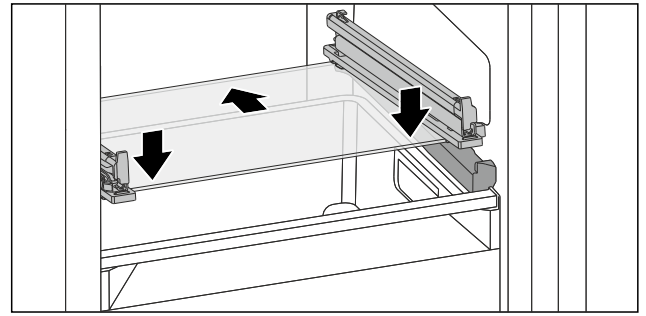

Fig. 141 Tilting drawer glass shelf
- Position glass shelf at an angle behind the stoppers. (see Fig. 141)